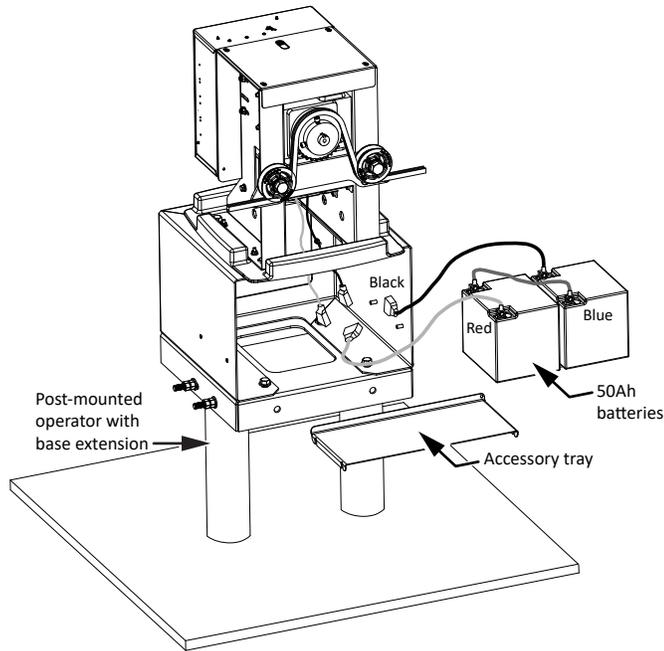

Figure 31. Wired Extended Battery Backup Kit
2. Place the accessory tray on the studs inside the base riser. See Figure 31.